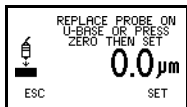

Figure 34. Zero the display
3. Press **ZERO** softkey to zero the display (Figure 34).